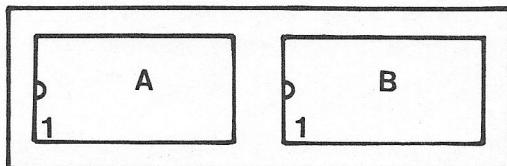

Fig. 4-21 Marking of EPROMs.
1. Mark EPROMs (Fig. 4-21) and insert in sockets on programming unit. The EPROMs are clamped in position by lever action.